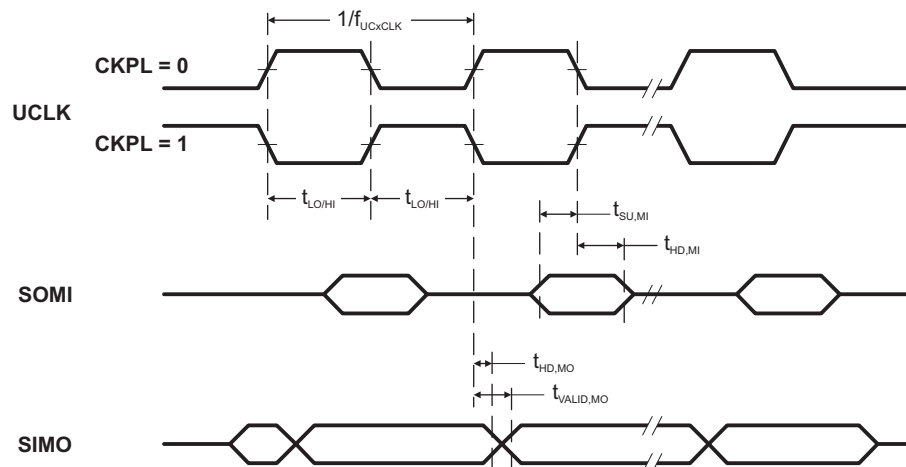
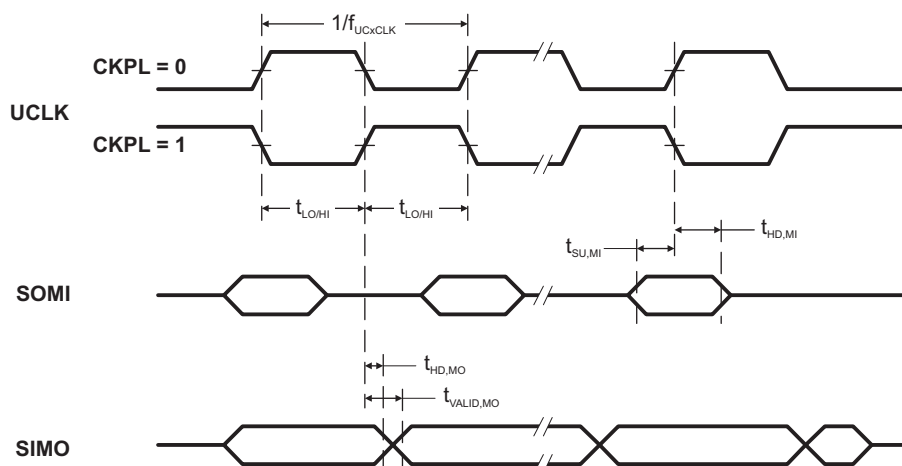

Figure 13. SPI Master Mode, CKPH = 0
Figure 14. SPI Master Mode, CKPH = 1
(see Note ⁽¹⁾, Figure 13 and Figure 14)
- (2) Specifies the time to drive the next valid data to the SIMO output after the output changing UCLK clock edge. See the timing diagrams in Figure 13 and Figure 14.
- (3) Specifies how long data on the SIMO output is valid after the output changing UCLK clock edge. Negative values indicate that the data on the SIMO output can become invalid before the output changing clock edge observed on UCLK. See the timing diagrams in Figure 13 and Figure 14.
- (2) Specifies the time to drive the next valid data to the SOMI output after the output changing UCLK clock edge. See the timing diagrams in Figure 13 and Figure 14.
- (3) Specifies how long data on the SOMI output is valid after the output changing UCLK clock edge. See the timing diagrams in Figure 13 and Figure 14.